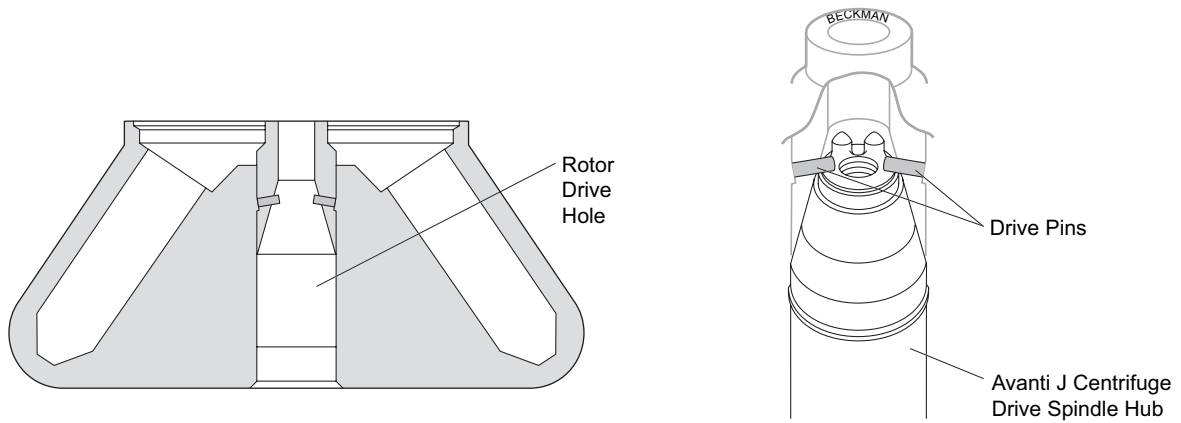
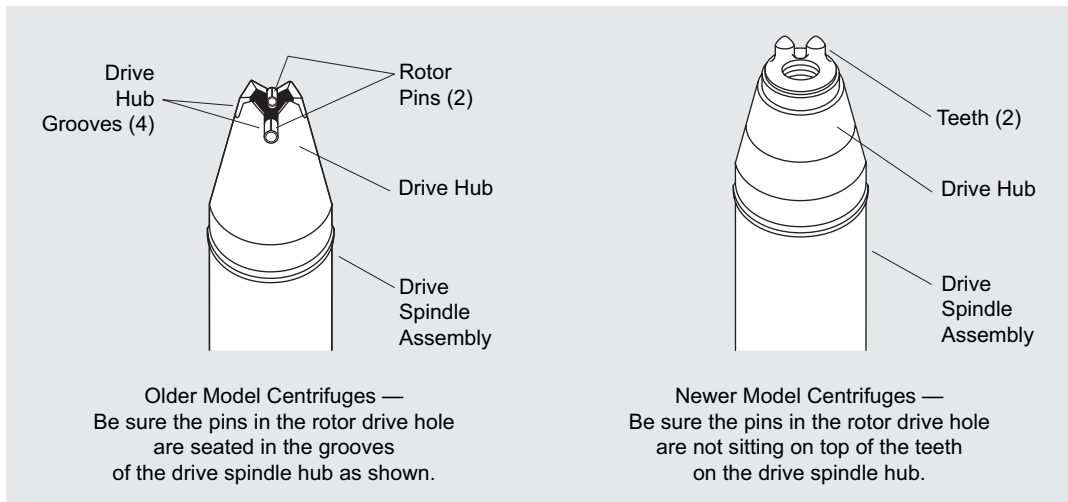

Figure 4. Rotor Drive Pin Location and Orientation
Figure 5. Centrifuge Drive Hub Configurations
Two metal pins inside the rotor drive hole engage with teeth on the centrifuge drive hub to prevent the rotor from slipping during acceleration and deceleration (see Figure 4). When the rotor is properly installed, the pins sit either in the drive hub grooves or on top of the hub surface (Figure 5).
4. Turn the rotor until the BECKMAN name is either horizontal or perpendicular to the drive hub pins or teeth (see Figure 4). Or, rotate the drive spindle to align the hub pins or teeth with the rotor drive pins.